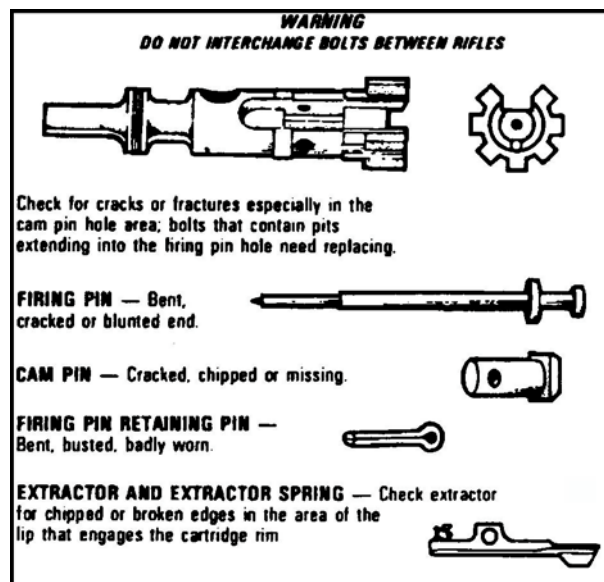

Figure 23. Inspecting the bolt assembly.
4. Inspect disassembled rifle bolt assembly (Figure 23).